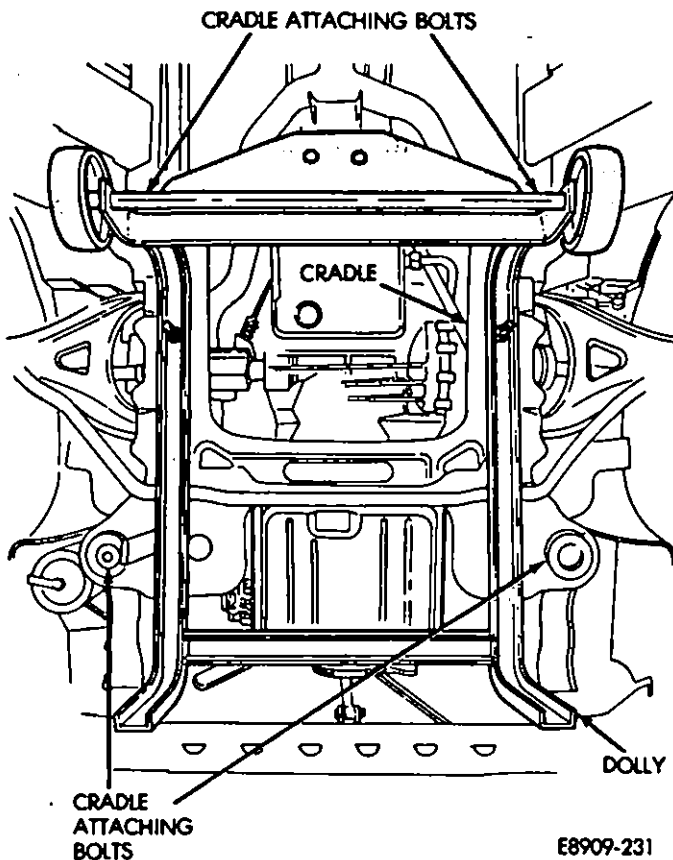

Fig. 21—Dolly Attached to Cradle
(63) Install the dolly to the cradle with the dolly wheels towards the rear of the vehicle. Tighten the nuts.
(64) Lower the hoist until the dolly rests on the floor.
(65) Laying on a mechanics creeper or on the floor, remove the four cradle mounting bolts (Fig. 21).